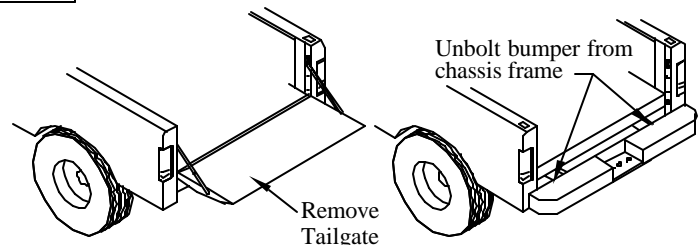

Figure 2 : Tailgate and bumper removal.
Step 1: **Remove** the tailgate (**Figure 2**).
Step 2: **Remove** the rear bumper (**Figure 2**).